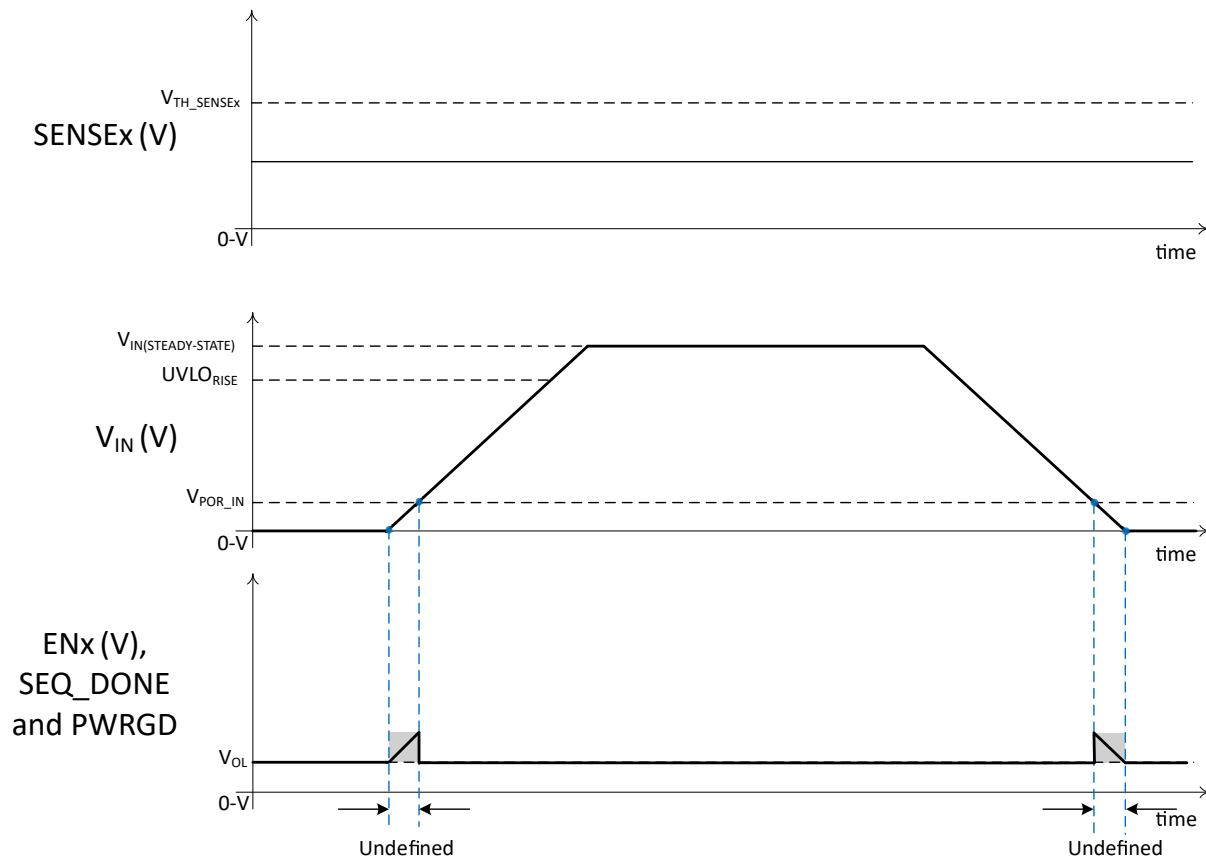

Figure 8-1. Outputs in a Valid Low State After $V_{IN} > V_{IN-MIN}$
Figure 8-1 shows the EN_x outputs relationship to a rising input voltage (V_{IN}). As can be observed, the EN_x are undefined when V_{IN} is lower than $V_{\text{POR_IN}}$ (typically 1.41V). During this time the outputs can be any value from 0V to V_{IN} . In this case, the input voltages to all undervoltage (UV) input comparators (SENSE_x) are below the $V_{\text{TH_SENSE}_x}$ (599mV). For this reason (in conjunction with waiting for a rising edge on UP), the EN_x, SEQ_DONE and PWRGD stays low after V_{IN} rises above $UVLO_{\text{RISE}}$ (typically 2.79V).